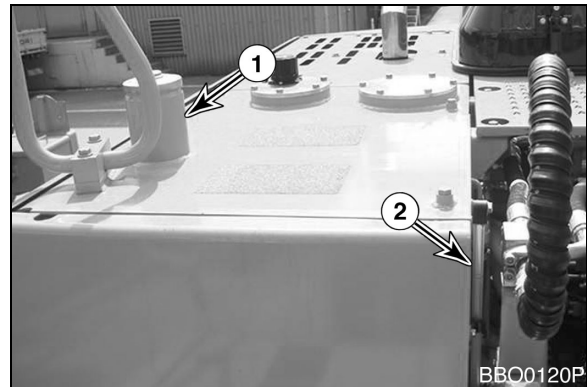

Figure 18
1. At end of each work day, fill fuel tank. Add fuel through fuel fill tube (1, Figure 18). When working at a temperature of 0°C (32°F) or higher, use ASTM No. 2-D or its equivalent. At temperatures below 0°C (32°F) use ASTM No. 1-D or its equivalent.
3. Check the amount of fuel in the tank by observing the fuel tank sight gauge (2, Figure 18).